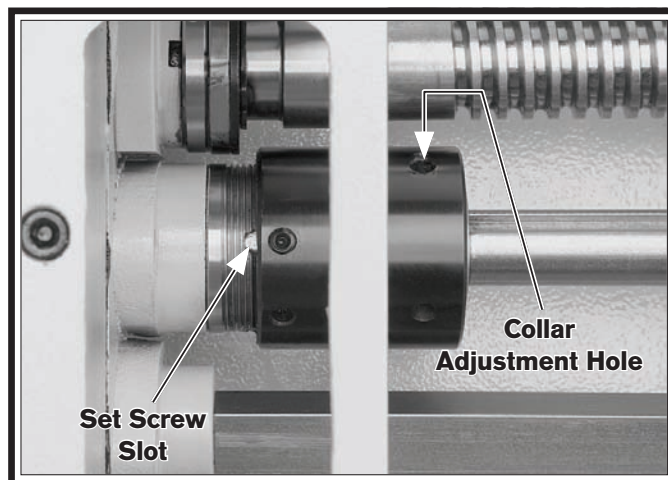

Figure 135. Feed clutch set screw alignment.
4. Insert the hex wrench into the collar adjustment hole shown in **Figure 135**, and use the wrench to rotate the clutch collar.
5. Line up the set screw hole in the clutch collar with the closest set screw slot that is cut into the feedrod (see **Figure 135**).